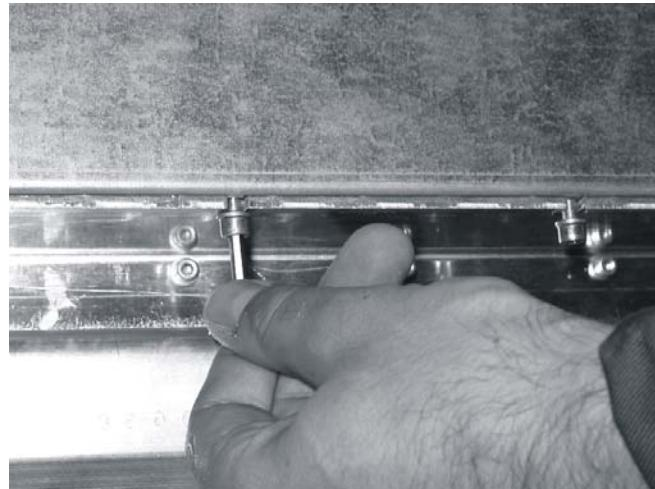

Figure 13: Loosening screws at bottom of EMI shielding
5. Use the 4 mm allen key to loosen (but not remove) the screws at the bottom of the EMI shielding (see Figure 13).
9. Use the 4 mm allen key to tighten the screws at the bottom of the EMI shielding (see Figure 13).